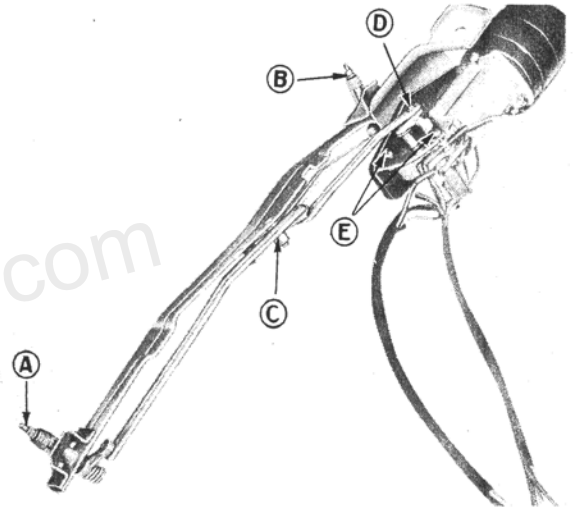
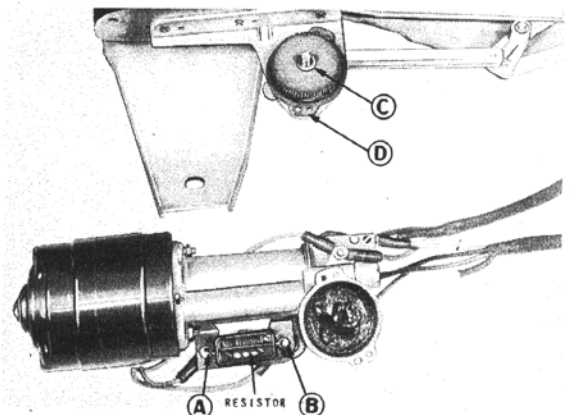

Figure 5 Wiper Parts Used Underneath Cowl (Assembled)
Figure 13 Drive Unit Disconnected from Bracket
1. Check for loose or broken connections of resistor (See Figure 13). These connections can usually be checked without removing wiper from car.
HOW TO SERVICE ELECTRICAL SYSTEM (Continued)**B. What To Do If Wiper Motor Runs When Switch Is On, But Wiper Crank ("D", Figure 5) Does Not Operate.**
1. Remove the small retaining rings and washers at A, B, C and D, Figure 5. This allows entire linkage and wiper arm shafts to be removed from frame.
2. To replace, slip assembly into position and install washers and retaining rings. CAUTION: Be sure small oilless bushing is pressed into link at "D", Figure 5.
1. Remove entire drive unit from bracket by taking out two screws ("E", Figure 5).
2. Unsolder resistor lead wires at "A" and "B", Figure 13.
4. Attach drive unit to bracket with two screws and lock washers ("E", Figure 5). Be sure small washer ("C", Figure 13) is over driven gear shaft and gasket ("D", Figure 13) is in place.
3. Remove two screws and lock washers ("E", Figure 5).
4. Attach new housing, drive gear, resistor and breaker assembly to bracket and driven gear assembly with two screws and lock washers ("E", Figure 5). Be sure small washer ("C", Figure 13) is over driven gear shaft and gasket ("D", Figure 13) is in place.
1. Remove small retaining ring and washer ("D", Figure 5).
Be sure small washer ("C", Figure 13) is over driven gear shaft and gasket ("D", Figure 13) is in place.